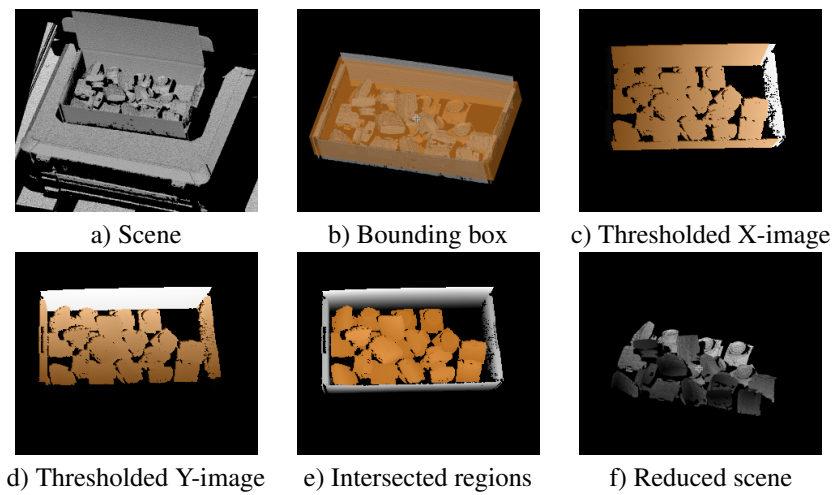

Figure 6.4: After removing the background plane the domain is reduced based on the 2D-mappings of the scene.
2. Estimate the extents of the bin. Now that the scene is reduced to the bin containing the objects to be localized, the bin is estimated approximately with respect to the scene coordinate system (see figure 6.4 b).
4. Apply a 2D threshold on the X and Y mappings (see figure 6.4 c) and d)).
5. Compute the region of interest by intersecting the X- and Y-mappings and the domain of the scene without background (see the results in figure 6.4 e) and f)).